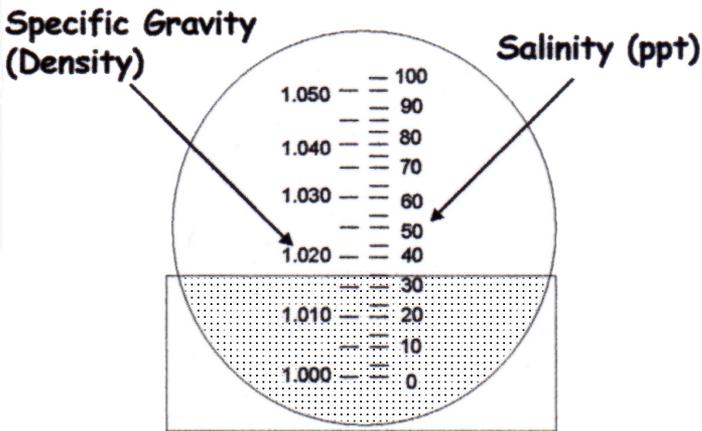

Figure 3-27: Reading the salt refractometer scale
6. While looking through the eye piece, rotate the calibration screw so the dark and light boundary line (like the focus of a camera) lines up exactly with the "0" line on the ppt scale (Figure 3-27 pg.3-42).
3. Aim the angled end of the refractometer toward a light source and rotate the eye piece until the boundary line between the light and dark halves is clearly in focus (Figure 3-27).
4. The number adjacent to the boundary line between the light and dark halves on the right side of the scale is the salinity of the water in parts per thousand (ppt) (Figure 3-27).